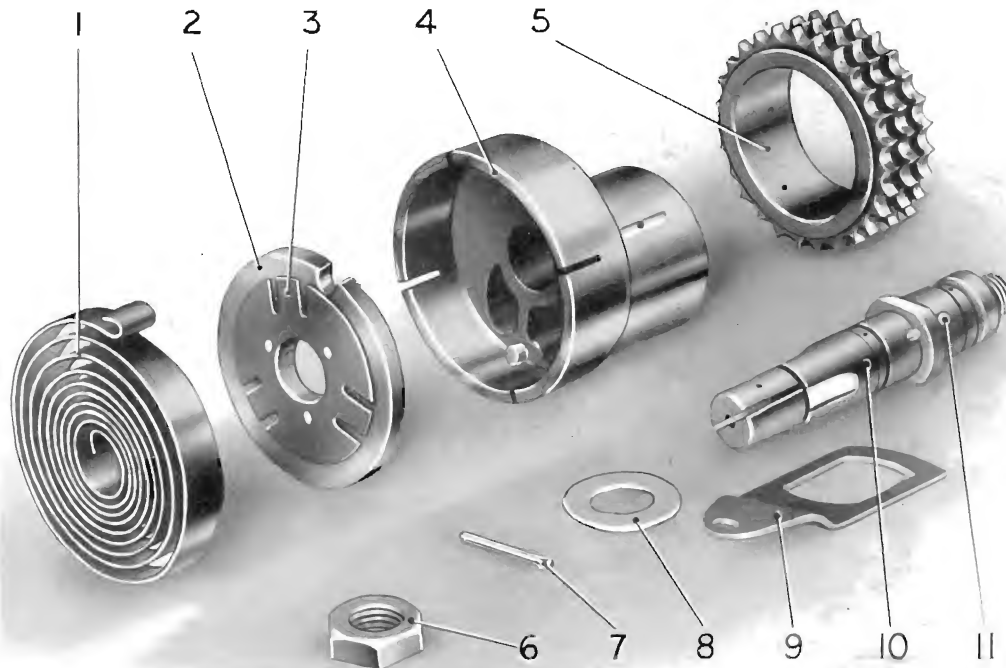

Fig. 20.
This consists of an idle sprocket (5), Fig. 20, mounted on an eccentric sleeve (4) carried on a spindle (10) located in the engine casing by a peg and secured by a large nut and washer inside the block. It is further secured by a D-shaped locking plate